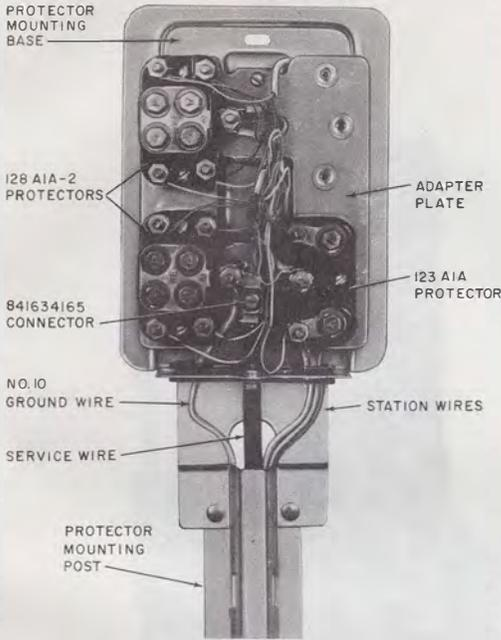

Fig. 22—93D1 Protector Mounting Installed on Protector Mounting Post
3.28 The 93D1 protector mounting is designed to house four 123- or 128-type protectors. It is intended to be mounted on a protector mounting post (PMP) where stations are served by buried service wire (Fig. 22) or may be installed on any flat surface.
3.38 The PMP has an open channel in the back for the service wire. The slotted holes in the stake permit the service wire to be fastened in the channel by using plastic cable ties or metal sealing clamps. The round holes in the stake permit attachment to structures where required. See Fig. 22 and 25 for examples of service wire terminations.